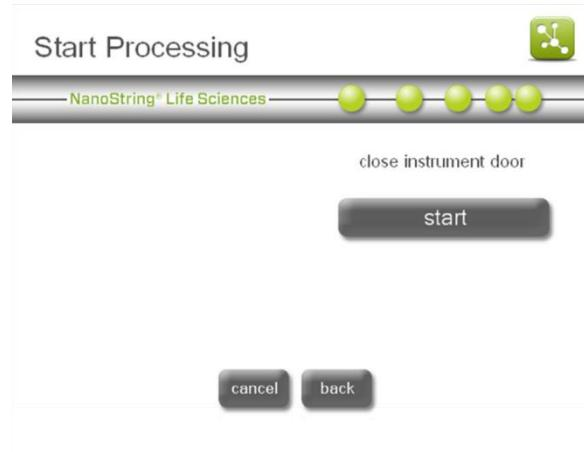
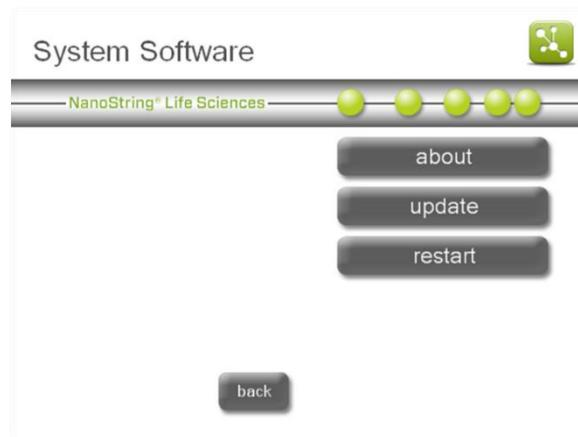

Figure 140: The ‘Start Processing’ screen.
Figure 149: The 'System Software' screen.
6. The ‘Start Processing’ screen will appear (**Figure 140**). Press **start** to initiate the protocol.
Select **software** from the Maintenance Menu (**Figure 140**) to update Digital Analyzer's system software when a new release occurs, view the current software version information, and restart the system in troubleshooting situations (**Figure 149**).